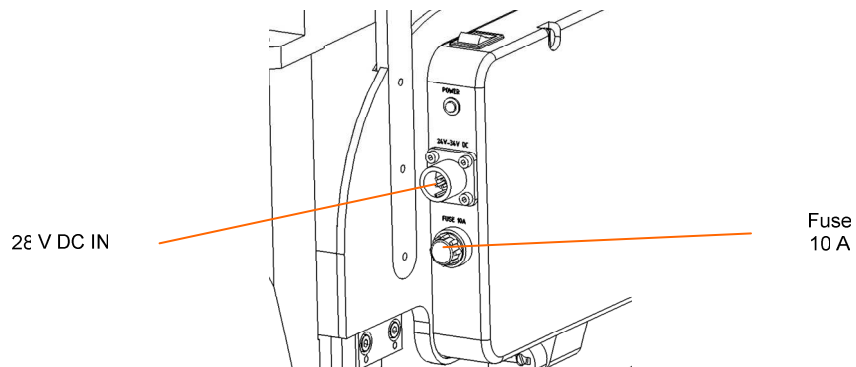

Figure 1.16: Scanner: power connector and fuse.
- Connect “Scanner Power” power cable to “28 V DC IN” input of the scanner. (Figure 1.16)